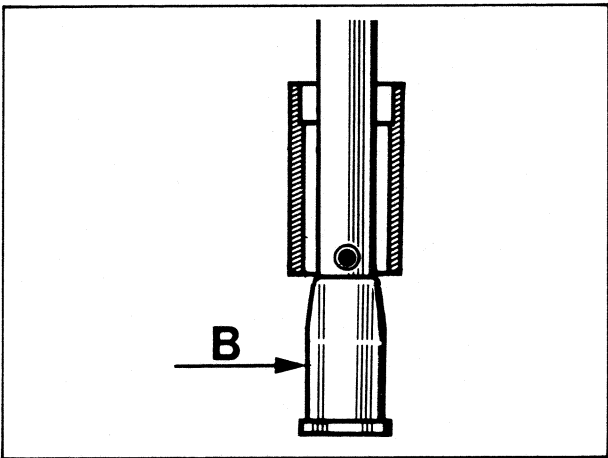

Fig. 4.2
When it is about 4 cm left to bottom the oil flow to the big hole in the spindle decreases and by that also the flow through the damping spindle, (see fig.) as the damping cylinder is moved down over the valve (B) and the oil gradually gets a smaller passage. This partly prevents from "bottoming". See fig. 4.2